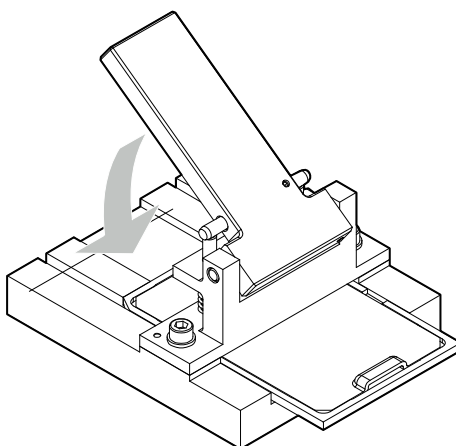

Figure 1.16 Push down the handle
- d Push down the Film perforator handle until stop to make holes in the film, see Figure 1.16.